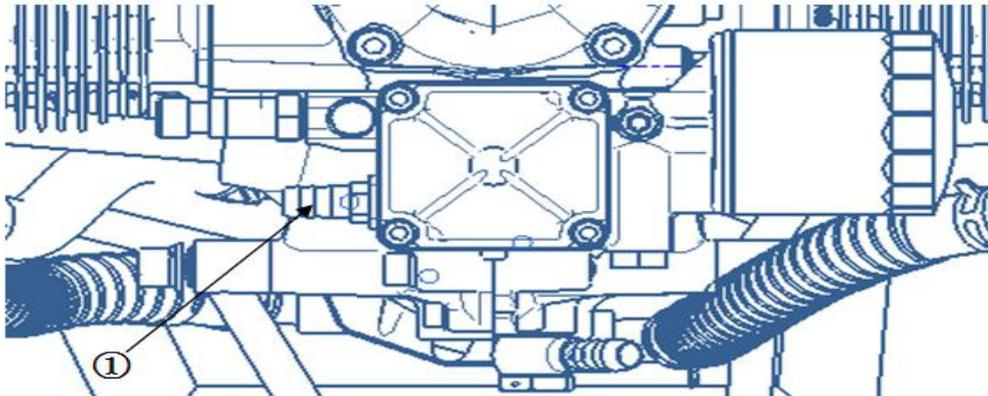

Fig. 31
**NOTE:** Suitable for use of a swivel joint. See Fig. 31,